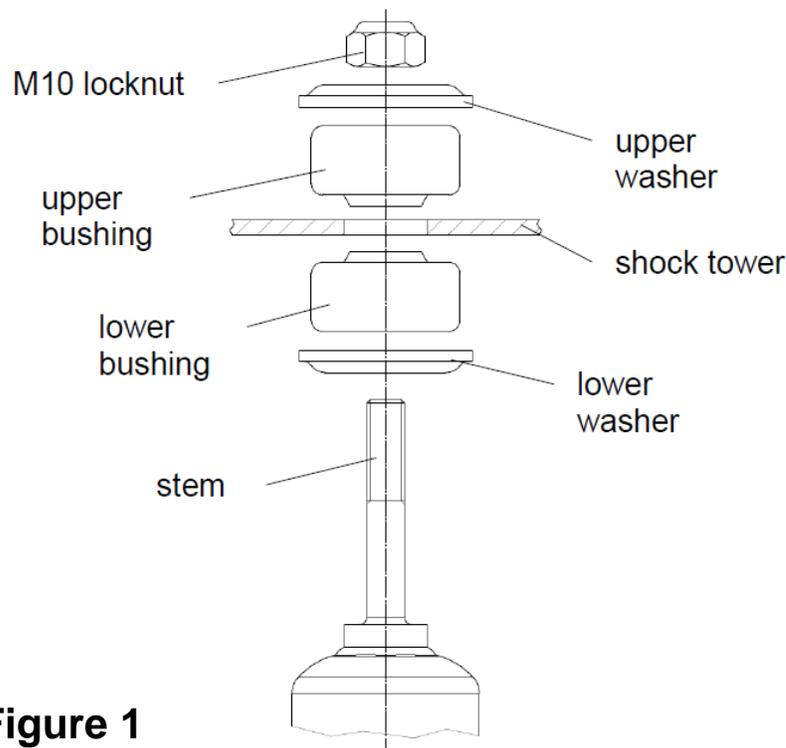

Figure 1
- Using the supplied stem mounting hardware, install the upper mount. Please refer to Figure 1 for the proper order of installation of the stem hardware. Make sure that the hose fitting on the shock is facing outward. Refer to Figure 3 for the correct shock position.